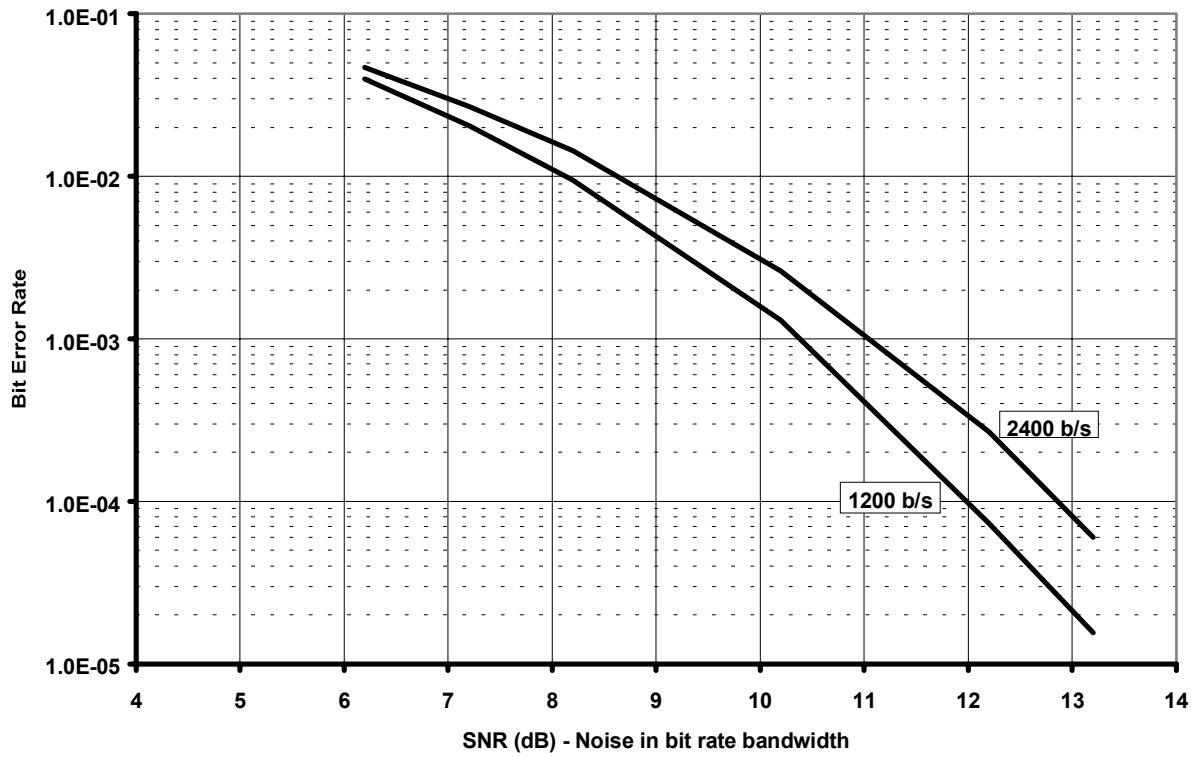

Figure 15 Typical FFSK/MSK Bit Error Rate Graph
| | 54 | V _{DD(A)} = 3.0V, for a "101010101 ... 01" pattern measured at the input amplifier feedback pin (12). Signal level scales with V _{DD(A)} . See Figure 15 for variation of BER with SNR. |